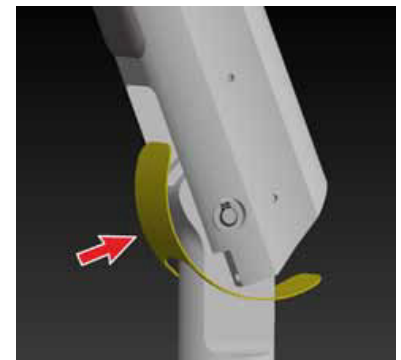

Figure 79
- Remove the defective end caps. Do not remove the rubber part shown in Figure 79.